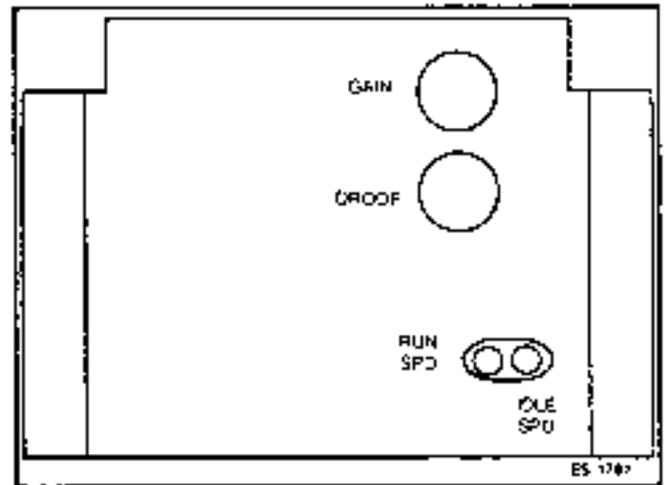

FIGURE 8-1. ELECTRIC GOVERNOR
Generator frequency is in direct ratio to engine speed which is controlled by the governor. A standard generator set uses a Cummins model EFC electric governor. (Other governor options are available, contact your distributor for further information.) The governor control has four potentiometers for making adjustments (see Figure 8-1). Use a frequency meter or tachometer to monitor the unit during adjustment procedure.
1. Idle Speed potentiometer (see Figure 8-1)
2. Run Speed potentiometer (see Figure 8-1).
3. Gain potentiometer (see Figures 8-1 and 8-2).
4. Drop potentiometer (see Figures 8-1 and 8-2).